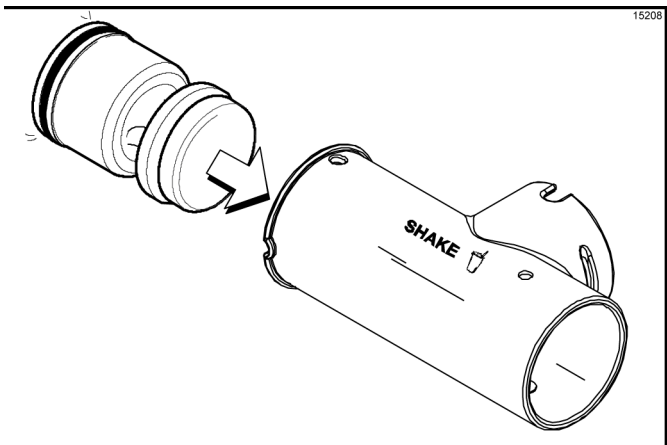

Figure 6-24
4. Insert the piston into the retaining pin hole end of the pump cylinder. (See Figure 6-24.)